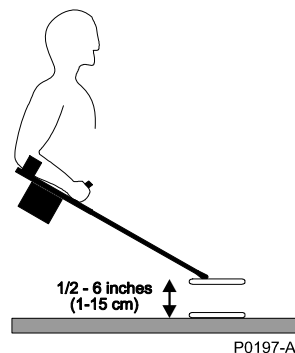

Figure 17 - Ground Balancing
- i) Move the coil up and down near the ground surface. This allows the Automatic Ground Balance feature to set the balance. Keep 'pumping' the coil until there is no change in the audio signal accompanying the movement (see Figure 17).